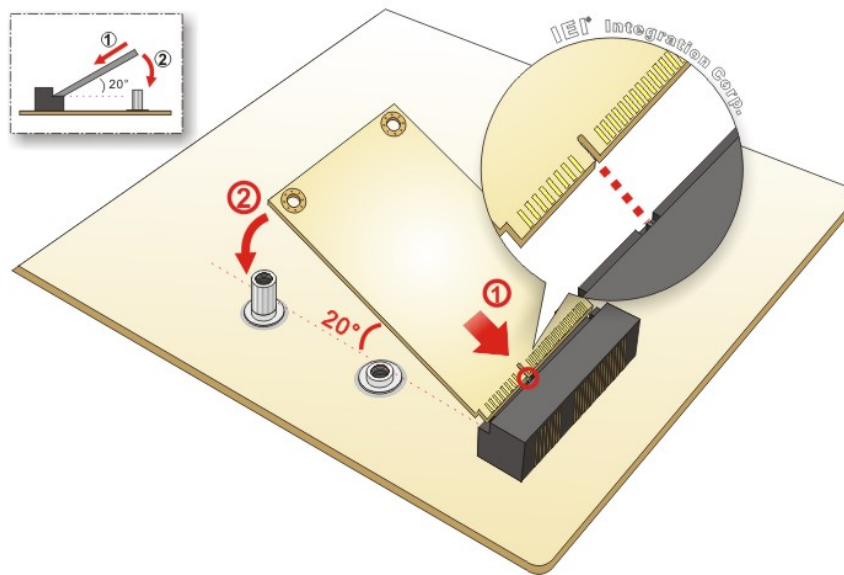

Figure 3-14: Inserting the PCIe Mini Card into the Slot at an Angle
Step 4: Insert into the socket at an angle. Line up the notch on the card with the notch on the slot. Slide the PCIe Mini card into the socket at an angle of about 20° (Figure 3-14).